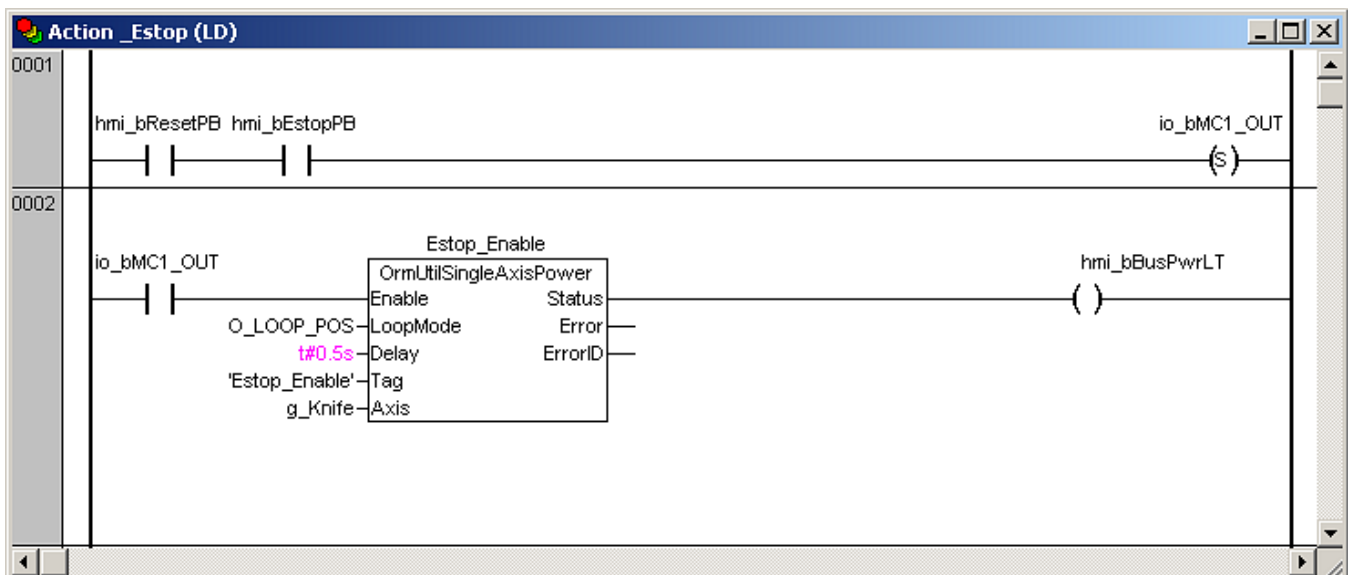

Figure 22, Powering Up the Drive
- Rename the function block Estop_Enable and add the inputs shown in Figure 22.